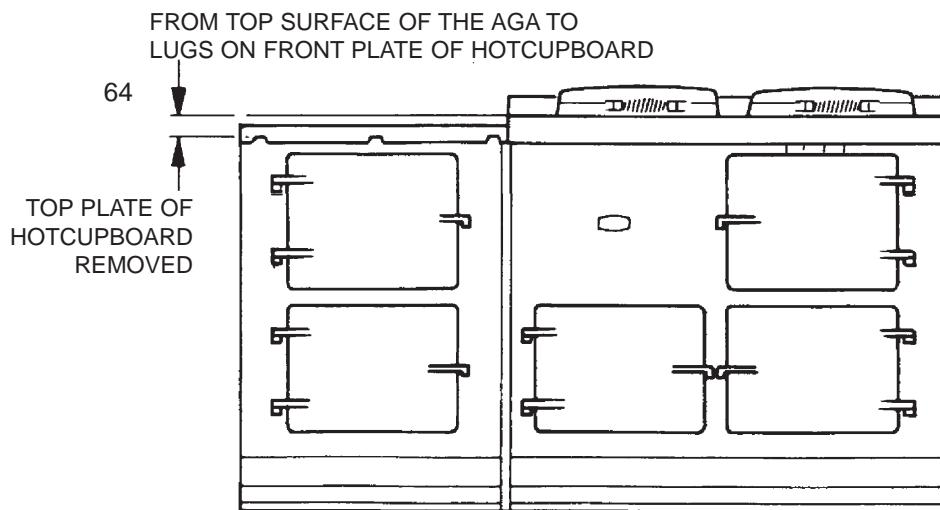

Fig. 9
- Levelling of the simmering plate on the main Aga cooker can be carried out with its top plate in position and verified across the hotcupboard (See Fig. 9).